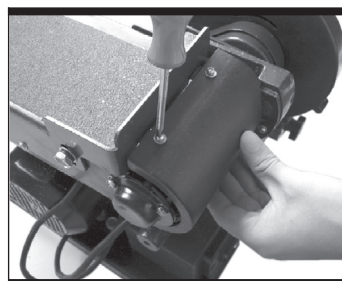

Fig 8-2
- 2) Fix and tighten the screws on the upper sanding drum guard. (Fig 8-2)